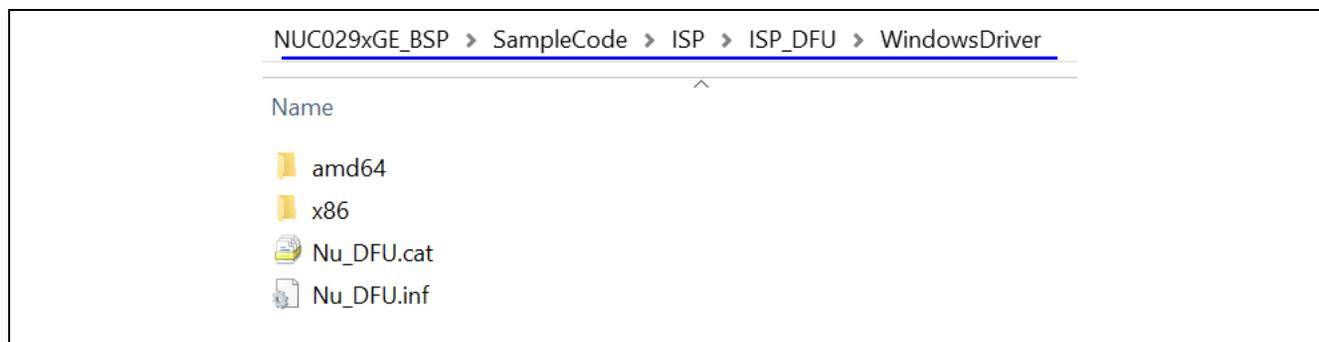

Figure 5-29 Nu_DFU Device Driver File Path
- After entering bootloader, it will be recognized as a Nu_DFU device, and then user can release SW1 button. If Nu_DFU device cannot be recognized, user needs to install Nu_DFU device driver. The file path is shown in Figure 5-29.